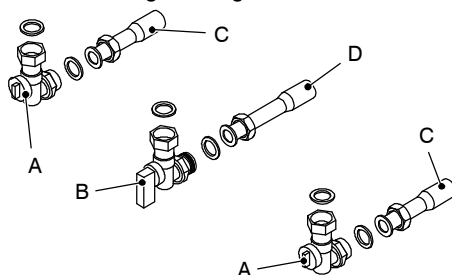

Fig. 6.3
- 4 Fix the c.h. valves A and gas cock B ( $\frac{3}{4}$ " to the boiler using the  $\frac{3}{4}$ " gaskets (Fig. 6.3)